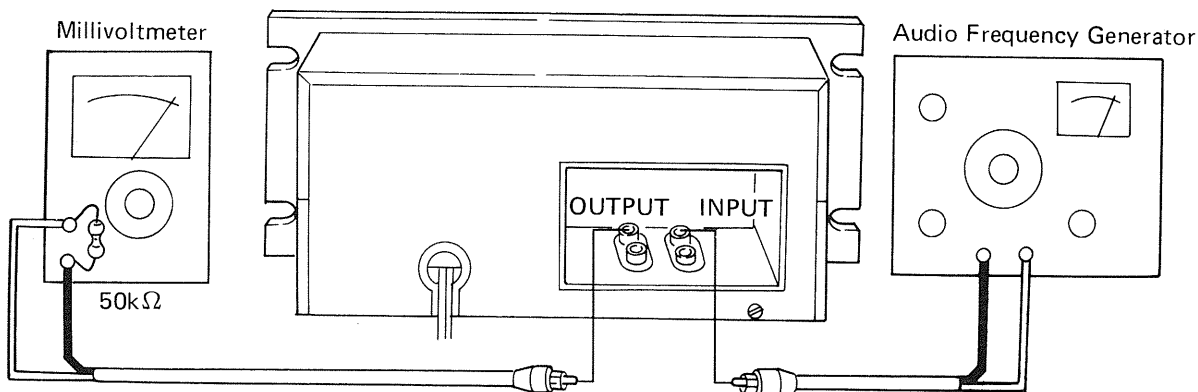

Fig. 30
- Connect a voltmeter (millivoltmeter) to the LINE OUTPUT terminals (Fig. 30).
- Connect a voltmeter (millivoltmeter) to the LINE OUTPUT terminals and apply a 1kHz, -10dBv (316mV) signal to the LINE INPUT terminals (Fig. 30).